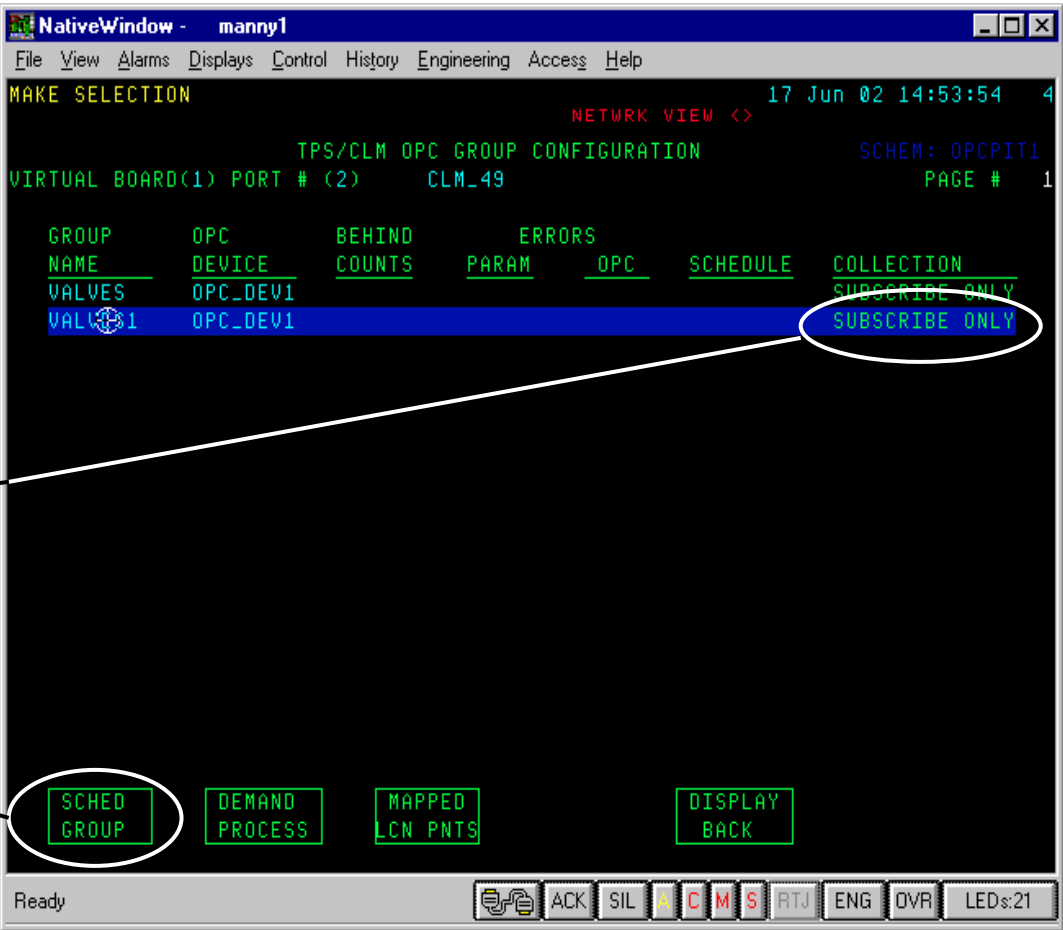

Figure 7.5-1 Group Configuration Display – Subscribed Data
7.5.5	When the display invokes, select the Group (PIT) name containing the item mapped to the image point parameter. This will invoke functional and detail targets at the bottom of the display. The display will look similar to Figure 7.5-1 below.